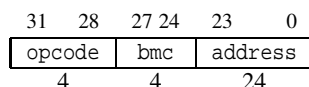

Figure 8: AHIP Header format.
**2.3.2.1 Asynchronous Transaction Protocol** The protocol uses a 32-bit wide bi-directional bus and two handshake signals, req, controlled by the host, and ack, controlled by the slave, to transfer data to and from the daughtercard, with the controller acting as the host and the daughtercard as the slave. When idle, both req and ack are low and the host is responsible for driving the bus so that it does not float. The host starts a transaction by raising the req signal and placing a header on the bus in the format shown in Figure 8. The